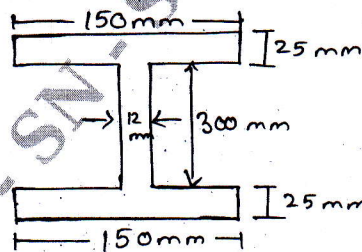

Fig.Q10
- 10 I-section given in the Fig.Q10 is simply supported over a span of 4m to carry a UDL of 80 kN/m over its entire span. Draw bending and shear stress across a section.